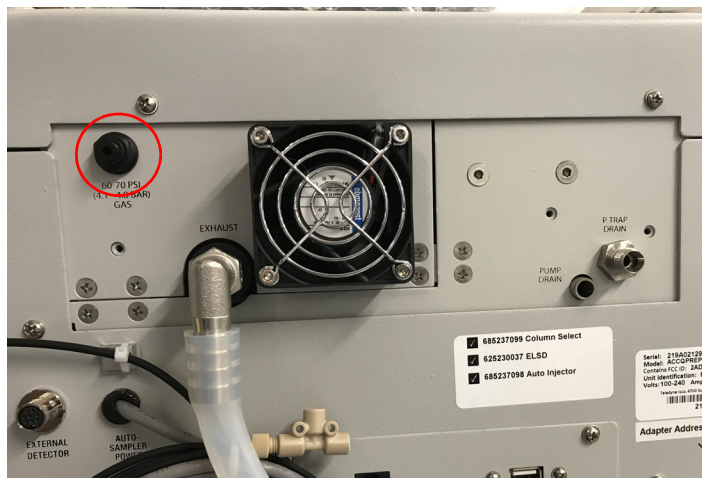

Figure 2-9 Location of ELSD gas port (Nitrogen input line circled)
- Push one end of the tubing into the NITROGEN INLET (Figure 2-9) port on the back of the system. The tubing should be fully seated in the port.